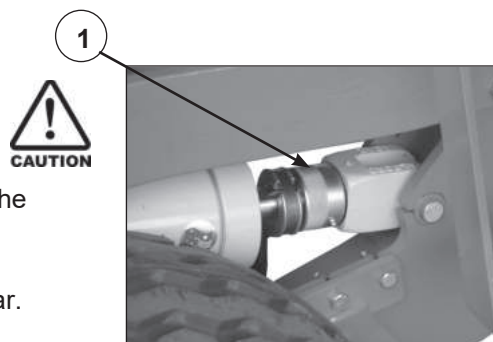

Fig 4
The wheel height in relation to the chassis is controlled using the threaded depth adjustment collar (1) Refer Fig 4.